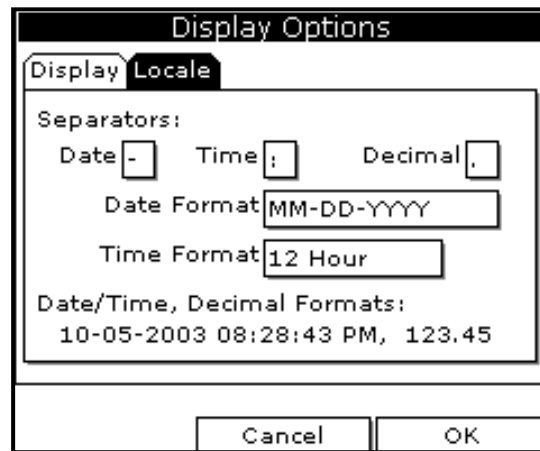

Figure 19: Locale Tab
3. Use the arrow key to scroll to Locale and press **[ENTER]**. A screen similar to *Figure 19* appears.